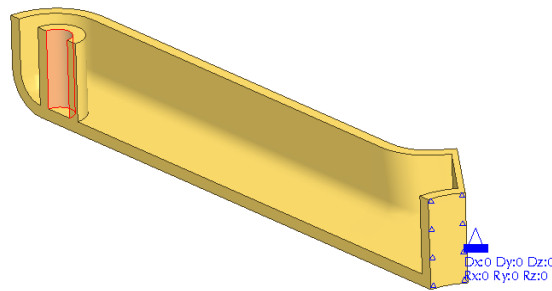

Figure 11 – Loaded Surface
- Definition of loads is similar to constraints. Choose **Loads > Force/Moment** or pick the  icon to apply a load over a surface. Pick the surface as shown in Figure 11. Type a value of **150** in the correct field for a vertical load on the leg (probably the Y direction). This will be half the total load applied to a single leg as we are only modelling half the leg. Press **Preview** to check the arrows point in the correct direction. Click **OK** in the Force/Moment dialog to finish.